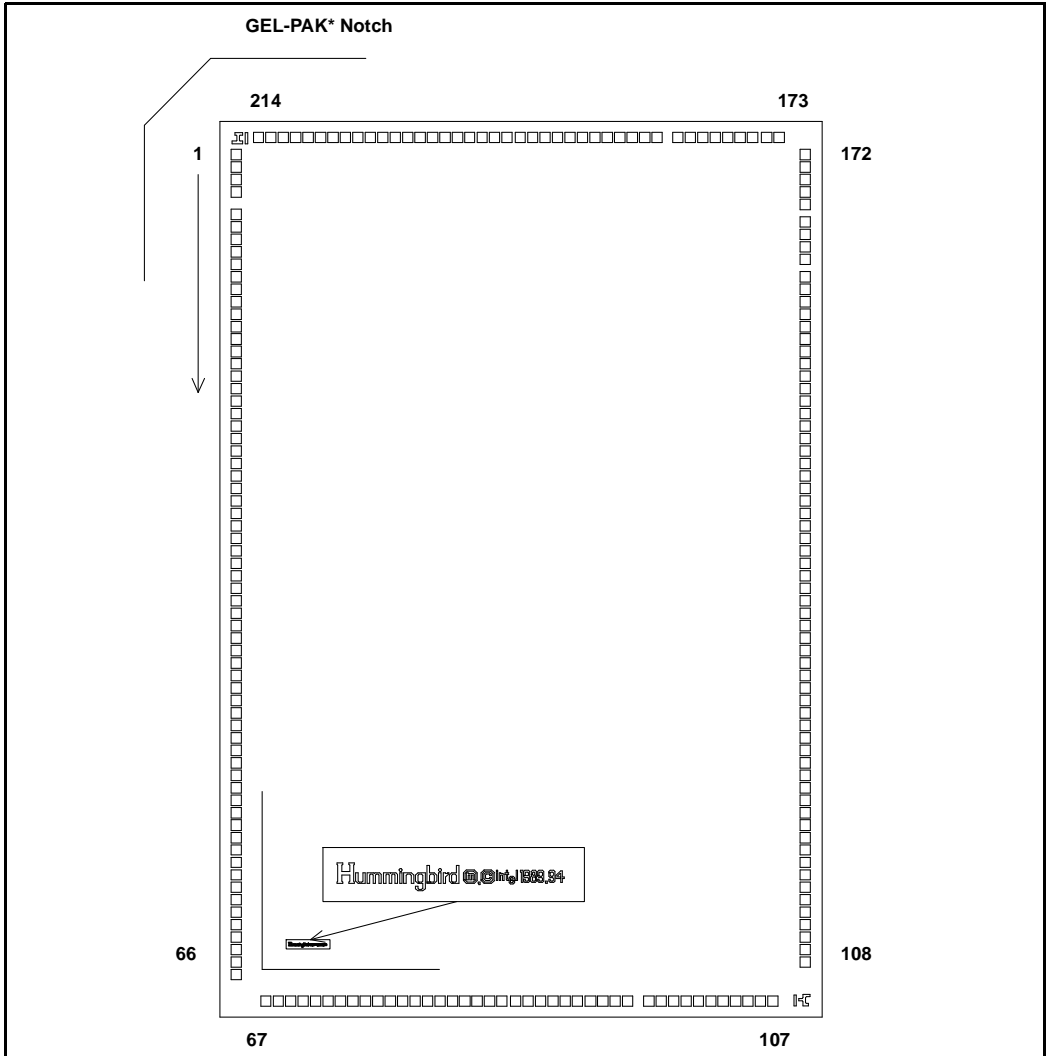

Figure 2. Embedded Ultra-Low Power Intel486™ GX Processor Die/Bond Pad Layout
- Figure 2. Embedded Ultra-Low Power Intel486™ GX Processor Die/Bond Pad Layout 2